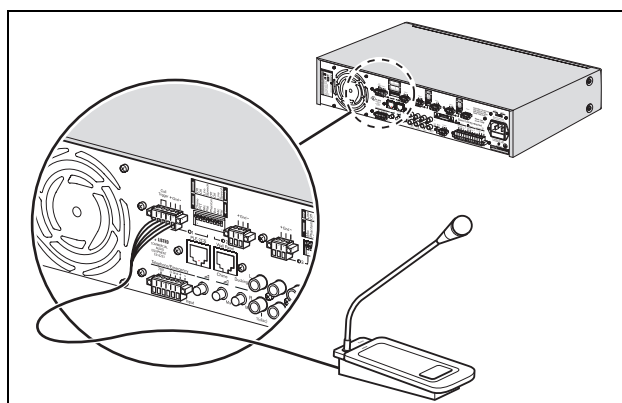

figure 4.2: Euro connector with trigger
- Euro connector with trigger. See figure 4.2.